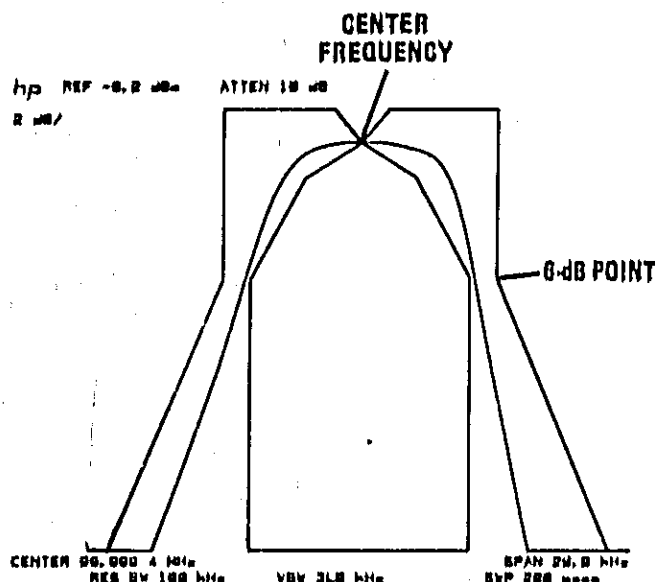

Figure 4-4. Error Limits for 9-kHz Bandpass Filter
11. On spectrum analyzer, set **CENTER FREQUENCY** to 20 MHz (100 MHz). Use DATA knob to center filter response inside error limits (Figure 4-4). Displayed CENTER indication must be 20.0000 ± 0.0045 MHz (100.0000 ± 0.0045 MHz).
12. Press **REFERENCE LEVEL**. Use DATA knob to place displayed signal at center frequency reference point of error limit graph (Figure 4-4). Waveform of 9-kHz filter must be within error limits. If displayed response is near error limit at bottom of CRT display, key in **REFERENCE UNIT** \downarrow to allow checking of lower portion of response down to -20 dB from reference point. Press **MARKER** and position marker (with DATA knob) to lowest point on left side of displayed response. Press **MARKER** and position second marker to lowest point on right side of displayed response. MKR Δ indication must be less than 20 kHz.